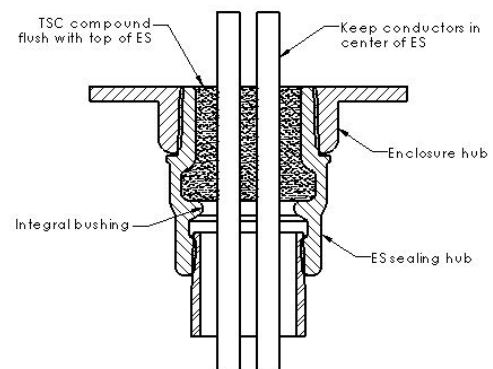

Figure 2
- Use a hardwood stick or dowel to pack compound in areas not readily accessible to fingers, and particularly in the centermost areas. Pack compound between and around conductors until compound is flush with the top of the hub as shown in Figure 2. Fill all voids.